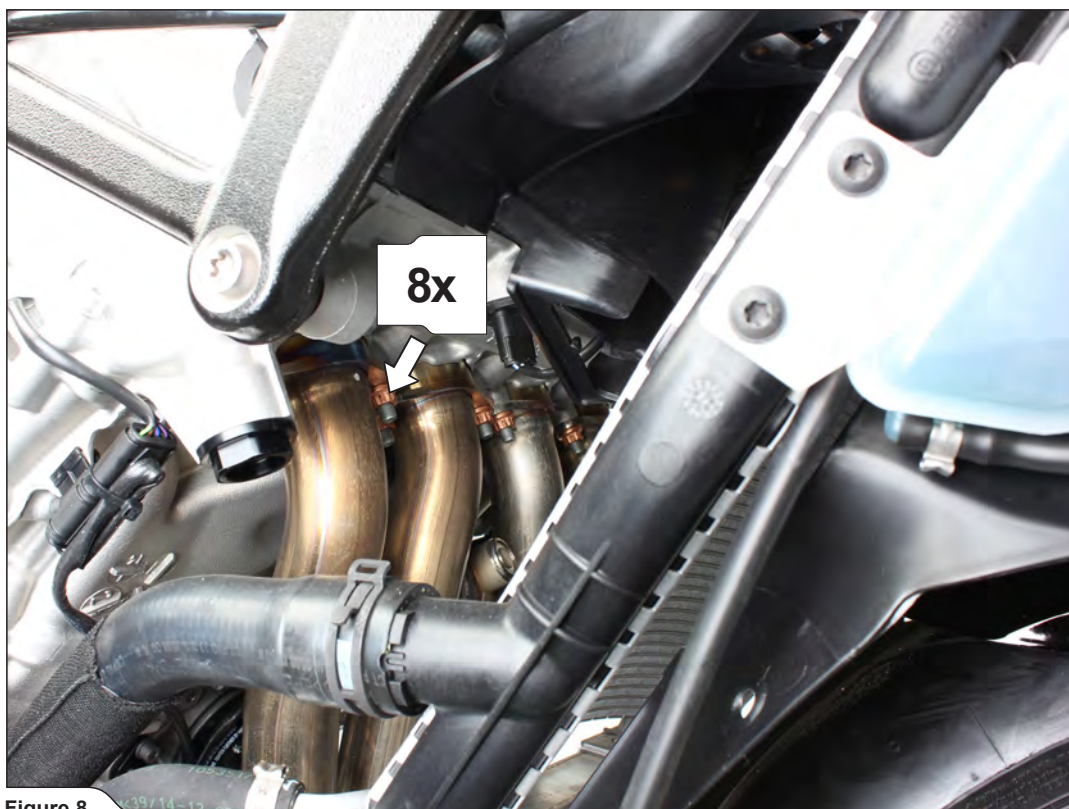

Figure 8
7. Unscrew all flange nuts (**Figure 8**).